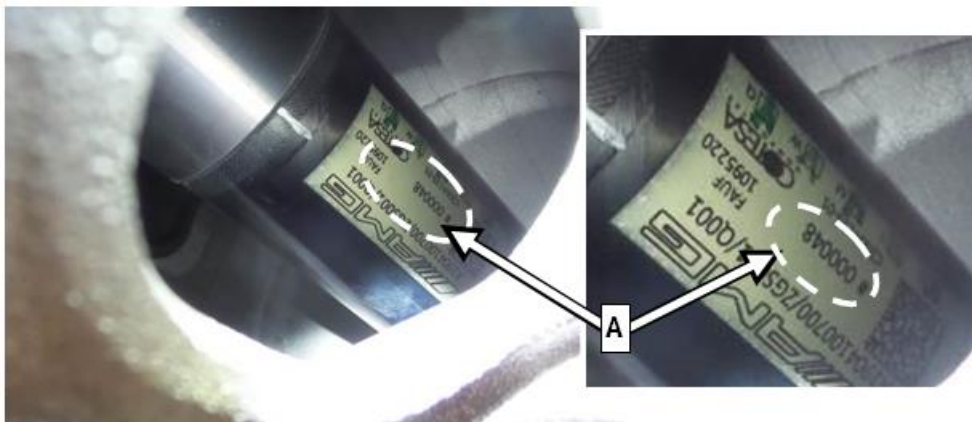

Figure 1
2.  Check drive shaft production number (A, Figure 1).
- If production number is **greater** than **000322 (OK)**: Procedure is complete.